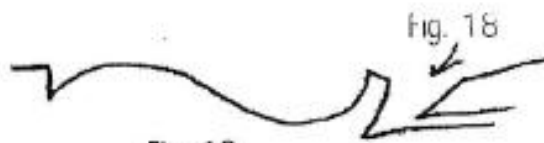

Fig. 18
13. Undercut leaf tip with thin, side registered chisel. (Fig. 18)